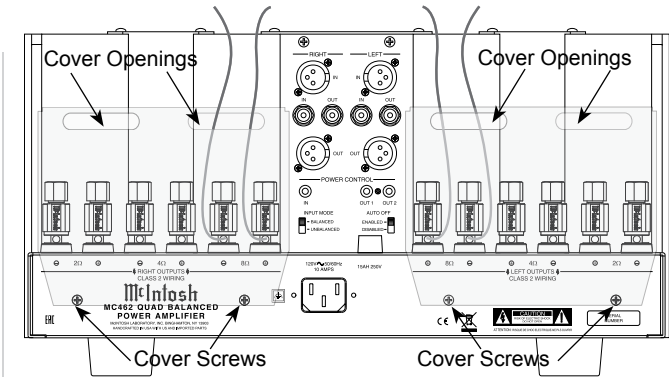

Figure 6 (Outside USA and Canada)
11. Locate the Terminal Connections Covers from the inside of the MC462 shipping carton. Insert the just prepared Loudspeaker hookup cables thru the cover openings, one cover for each channel. Refer to figure 6.
Note: The illustration in figure 6 is connections for 8Ω (ohms) Loudspeakers.
13. Attach the Terminal Connections Covers to the MC462 Rear Panel with the previously removed Screws. Refer to figure 6.
13. Locate the Terminal Connection Covers from the inside of the MC462 shipping carton. Insert the just prepared Loudspeaker hookup cables thru the cover openings, one cover for each channel. Refer to figure 6.
15. Attach the Terminal Connections Covers to the MC462 Rear Panel with the previously removed Screws. Refer to figure 6.